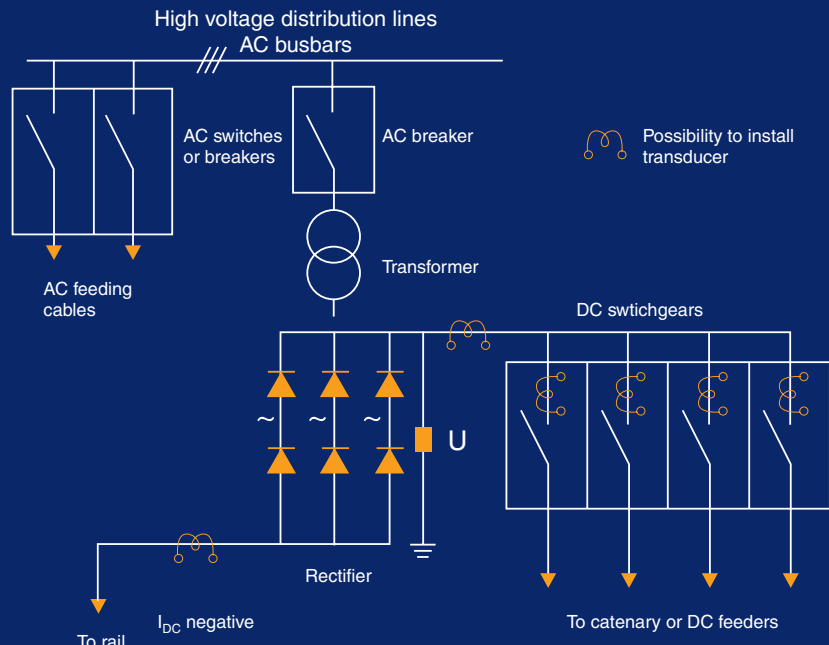

Figure 6: Typical Substation layout.
Generally, they are made up of (figure 6):
It is not unusual to find current transducers measuring earth leakage current from the rectifier to the rail (as represented in figure 6).
overcurrents while feeding relays with defined trigger levels to open the switchgear without delay (as represented figure 6).
- During medium to high impedance short circuits, the DC switchgear must open within a few hundred milliseconds. Again, the combination of the current transducer and relay will trigger the switchgear to open, however, electronic analysis of the transducer output waveform would allow further consideration and decision making (as represented figure 6).
The protection can also be ensured by measuring the current at the rectifier output using the same current transducers previously indicated., and represented in figure 6.
The voltage at the DC switchgear or the DC busbar (rectifier output) is often monitored to ensure the right voltage supplied to the catenary (The **LV 100-4000/SP2** is a possible voltage transducer solution as represented figure 6).